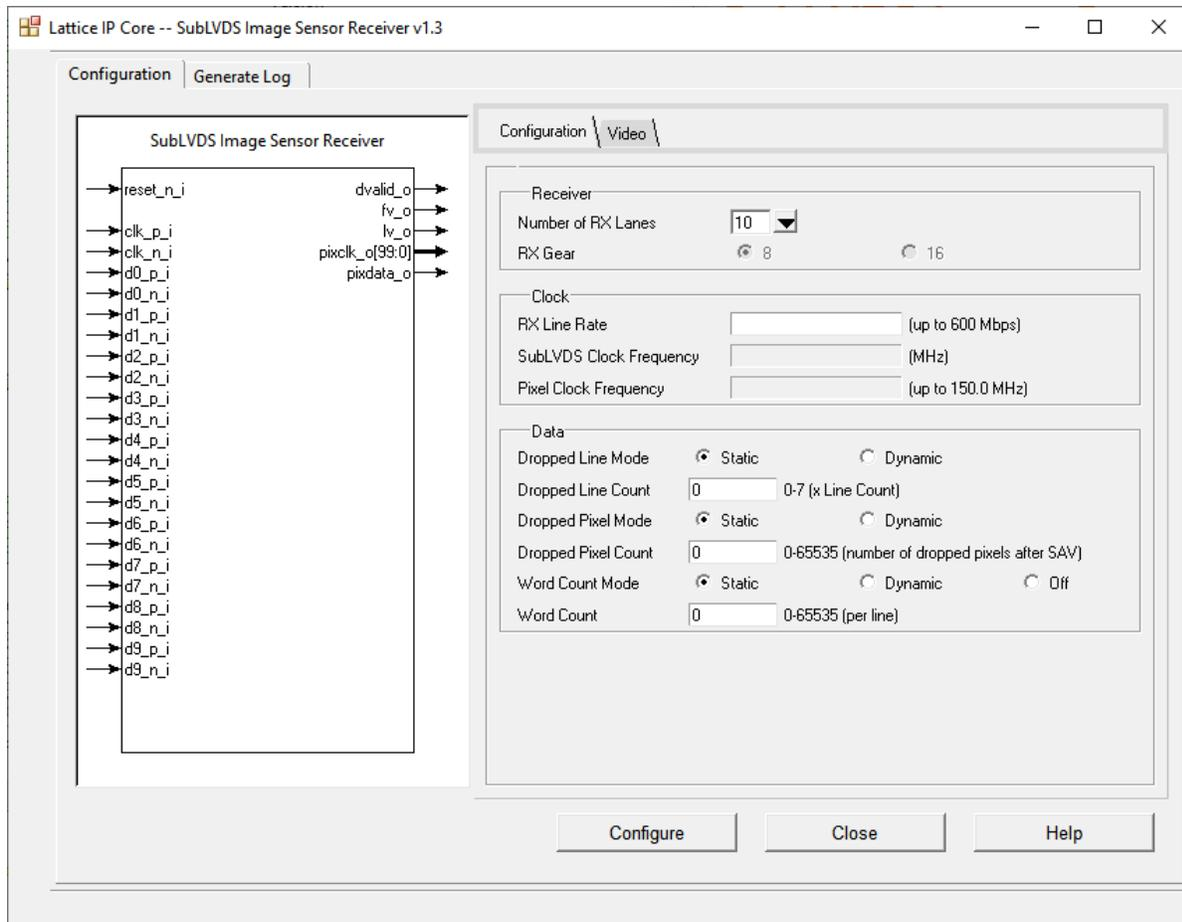

Figure 4.4. Configuration Tab in IP User Interface
3. Click the **Customize** button. An IP configuration interface is displayed as shown in Figure 4.4. From this dialog box, you can select the IP configuration specific to your application.